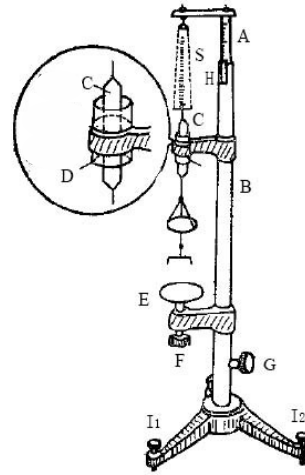

Figure 2. Jolly balance.
As shown in Figure 2, an object with mass  $M$  is set on an air track with a spring attached to both of its sides. The purpose of using the air track is to eliminate frictional forces between moving surfaces. The other ends of the springs are fixed to the air track. The spring constants  $k_1$  and  $k_2$  are to be measured with the Jolly balance. The origin ( $x = 0$ ) of the coordinate system is set at the equilibrium position of the mass  $M$ . Assuming that the masses of the springs can be ignored, and neglecting damping in the
In order to measure the spring constant using the Jolly balance, we need to place the small mirror  $C$  (see Figure 2) in the tube  $D$  and make three lines coincide: the line on the mirror, the line on the glass tube and its reflection in the mirror. First, without adding any weight on the bottom end of the spring, tune the knob  $G$  and make the three lines coincide. Then read the scale  $L_1$ .
1. Adjust the Jolly balance to be vertical: Attach the spring and the mirror as shown in Figure 2. Add a 20 g **preload** and adjust knob  $I_1$  and  $I_2$  to make sure the mirror can move freely through the tube.